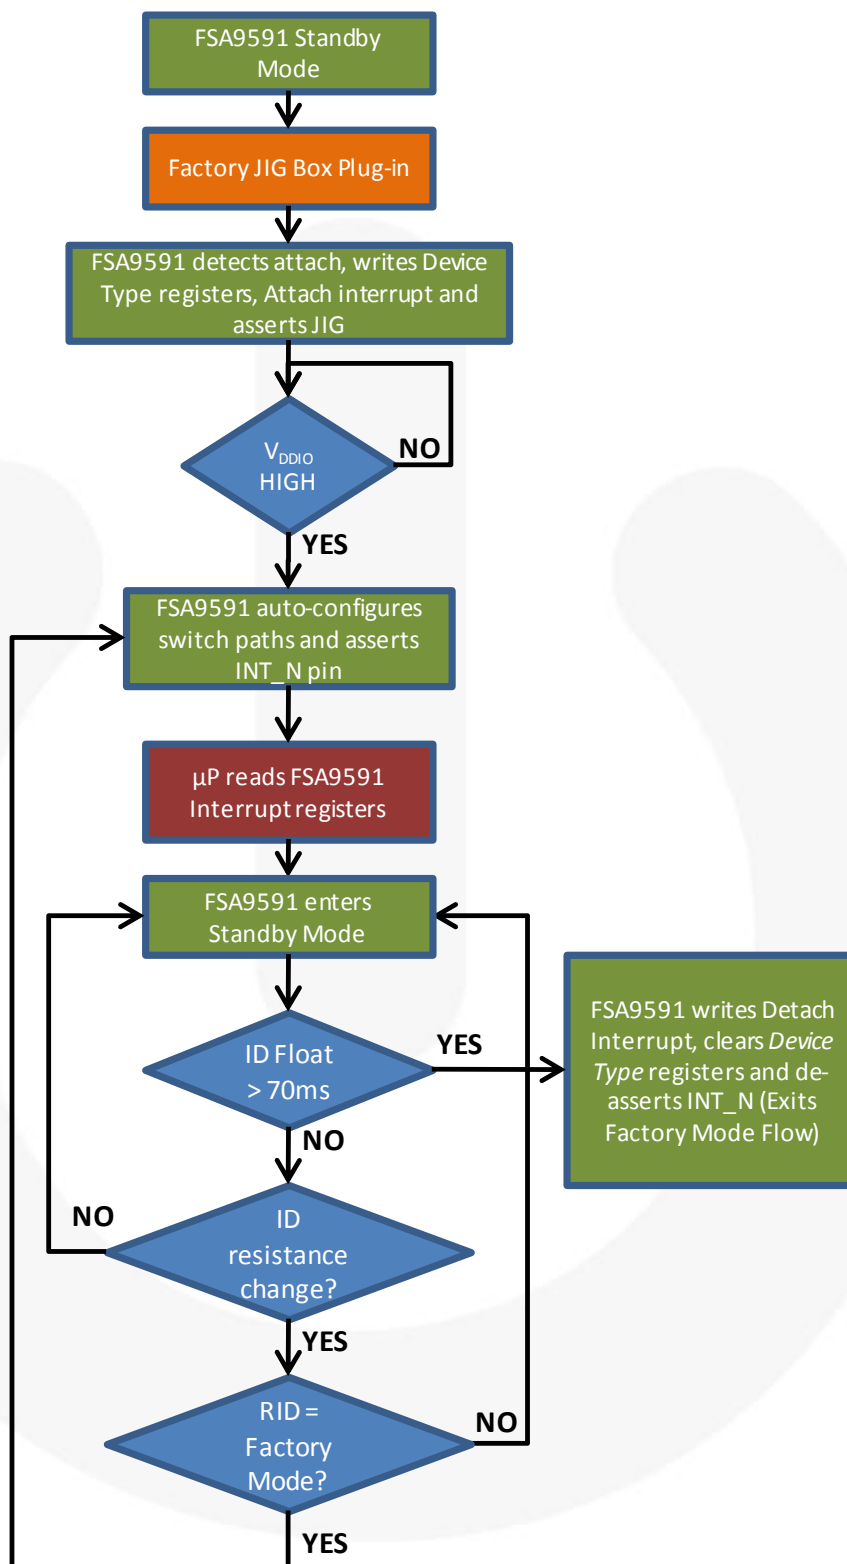

Figure 8. Factory Cable Detection Flow Chart
The FSA9591 detection algorithms monitor both the V_{BUS} and ID pins of the USB interface. Based on the detection results, multiple registers are updated and the INTB pin is asserted to indicate to the baseband processor that an accessory was detected and to read the registers for the complete information. The detection algorithm allows the application to control the timing of the detection algorithm and the configuration of the internal switches. The flow diagram in Figure 8 shows the operation of the detection algorithm.
7. Factory modes require V_{DDIO} =HIGH before configuring the switches. Refer to the factory mode flow diagram in Figure 8 for details.